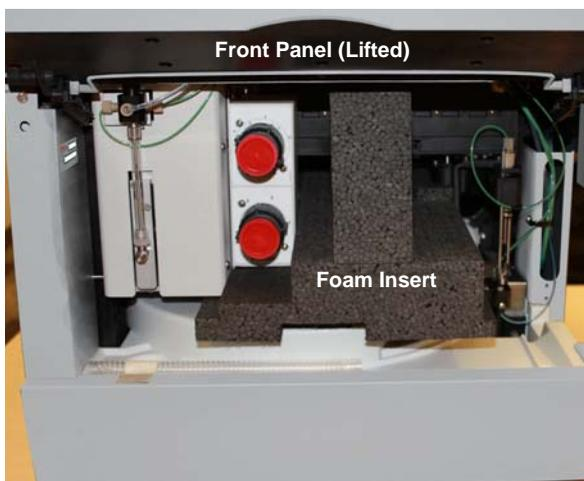
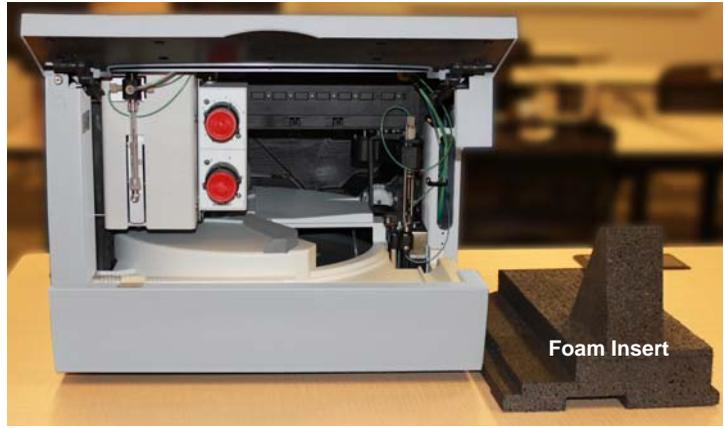

Figure 2-5. Dionex AS-AP with foam insert for protecting the needle arm and carousel (Dionex AS-AP with optional valves shown)
Figure 2-6. Dionex AS-AP with foam insert removed
8. Lift up the Dionex AS-AP front panel (see Figure 2-5) and pull out the foam insert that secures the needle arm and carousel cover during shipment (see Figure 2-6).